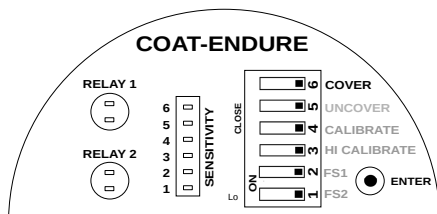

Figure 20: Saving Cover Delay
- Covered delay is entered, but not saved. To save and test the covered delay, set the COVER switch back to OPEN position as shown in Figure 20.